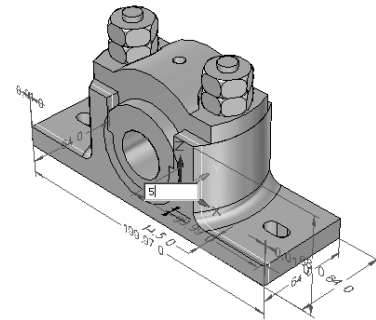

Figure 12-49 Moving the front face of the base component
- Modify the width of the base component, refer to Figure 12-49.
5. Click on the primary axis of the steering wheel; an edit box is displayed on the component. Enter **5** in the edit box to specify the distance to move the front face, as shown in Figure 12-49. On doing so, you will notice that the face moves toward both sides. But this will happen only when the base component is extruded symmetrically.